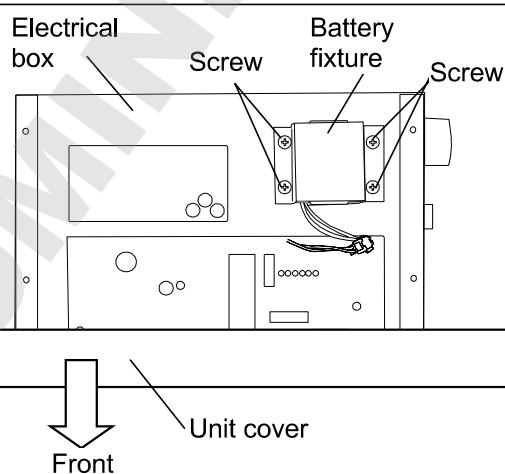

Fig. 3
5. Remove four screws fixing the battery fixture. (Fig. 3)